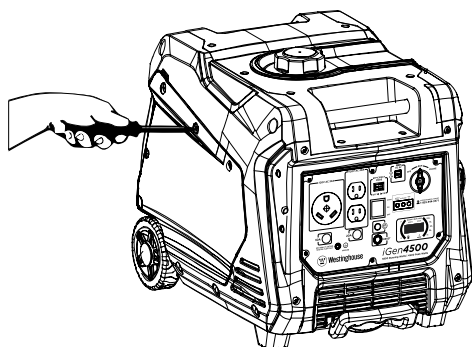

Figure 13: Remove Engine Service Panel
2. Remove the Engine Service Panel to gain access to the air filter (see Figure 13).
1. Remove the Engine Service Panel to access the carburetor (see Figure 13 on page 17).
3. Remove the Engine Service Panel to gain access to the spark plug (see Figure 13 on page 17).